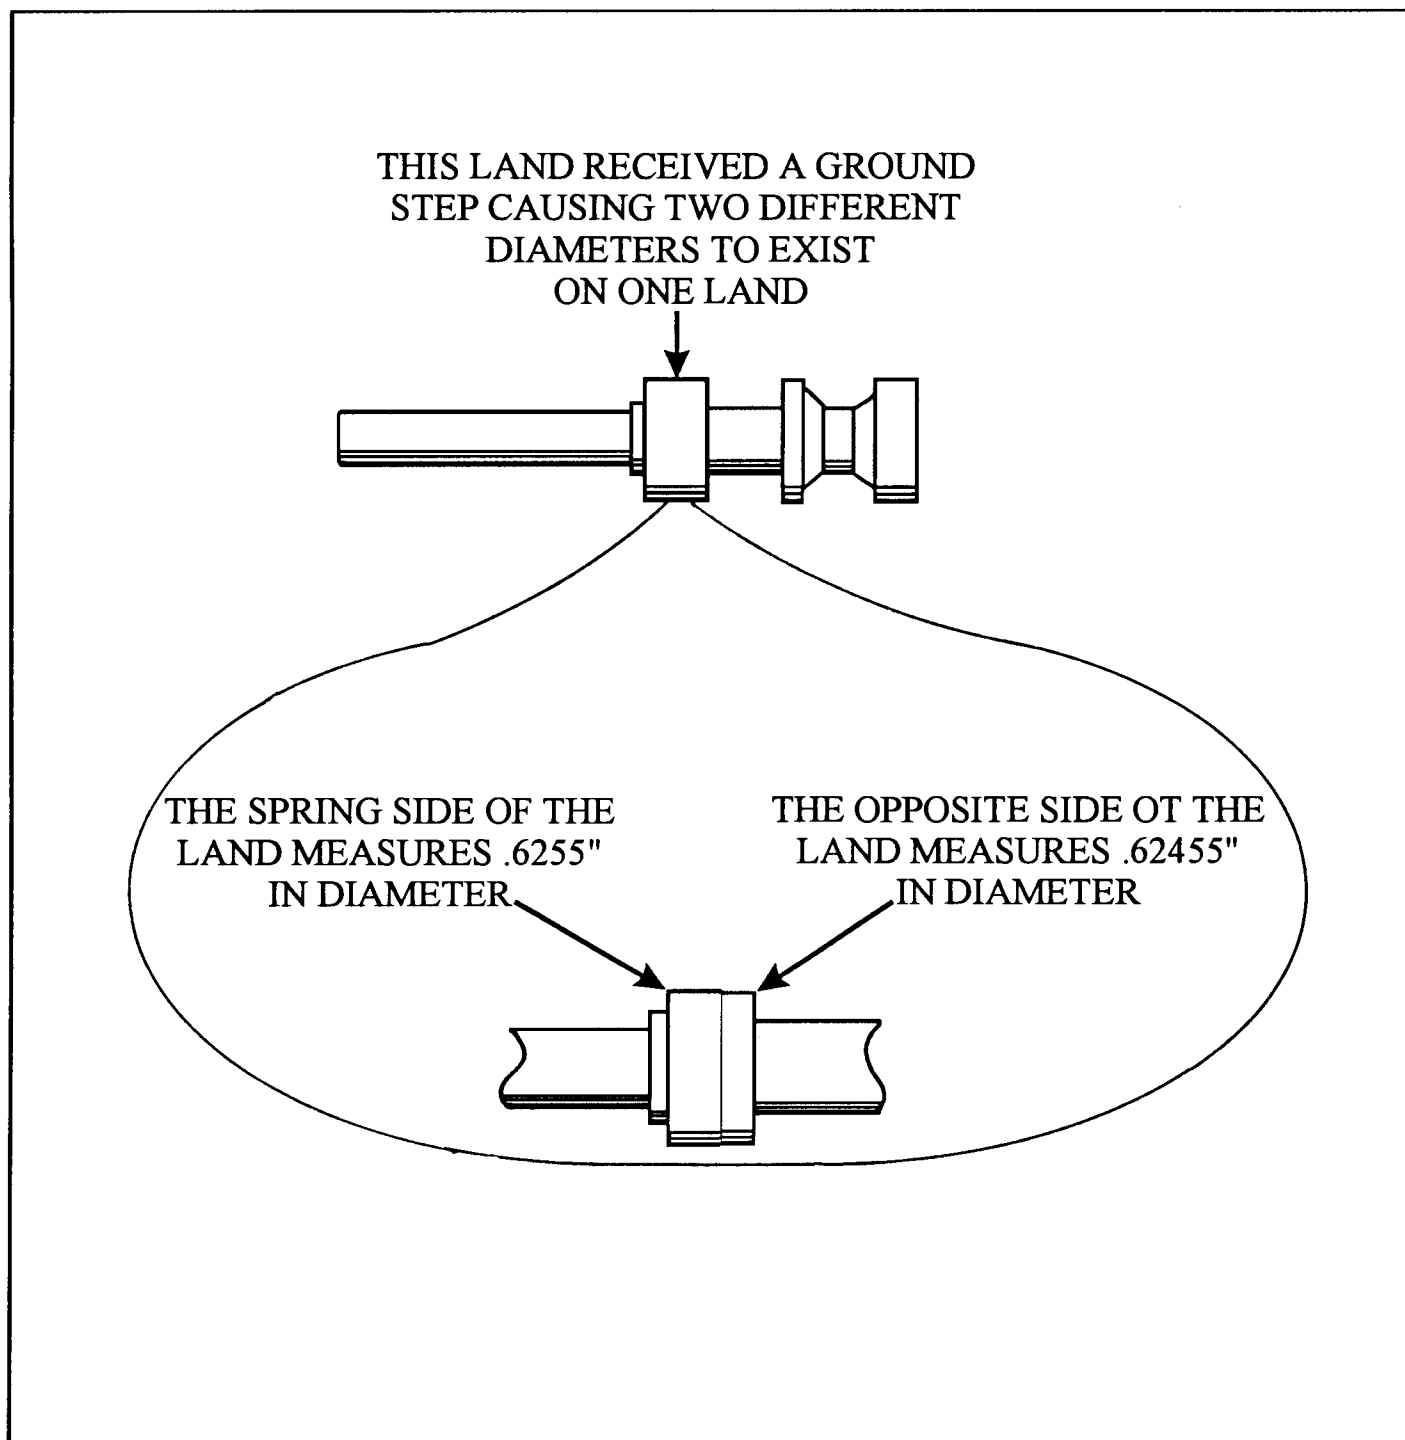

Figure 63
- (2) : **PRESSURE REGULATOR VALVE:** A ground step has been machined to the inner land on the Pressure Regulator Valve causing two different diameters to exist on one land (See Figure 63). There are no obvious or visible signs or identification marks to indicate the updated Pressure Regulator Valve. Careful measurement of the valve land is needed to properly identify the valve (See Figure 63). The spring side of the land measures approximately .6255". The opposite end of the same land will measure approximately .6245" (See Figure 63).